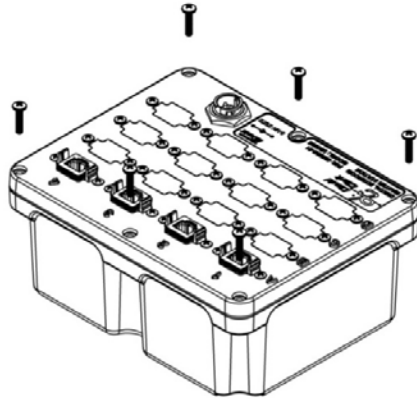

Figure 11.1 Main Cover Assembly
2. Remove the six main cover screws (**Figure 11.1**).
Comment [DB6]: Move Figures 11.1, 11.2 and 11.3 here?
4. Place entire assembly back into enclosure bottom (**Figure 11.1**).